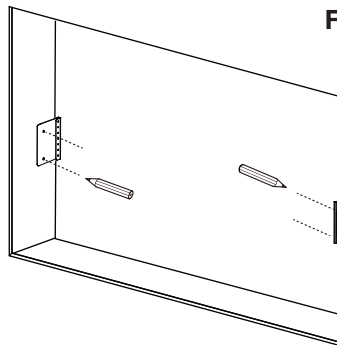

Fig. 2
- E. Mark the holes for the mounting bracket. Ensure the marked holes are on opposite sides, as the brackets cannot be mounted on the same side (**Fig. 2**).